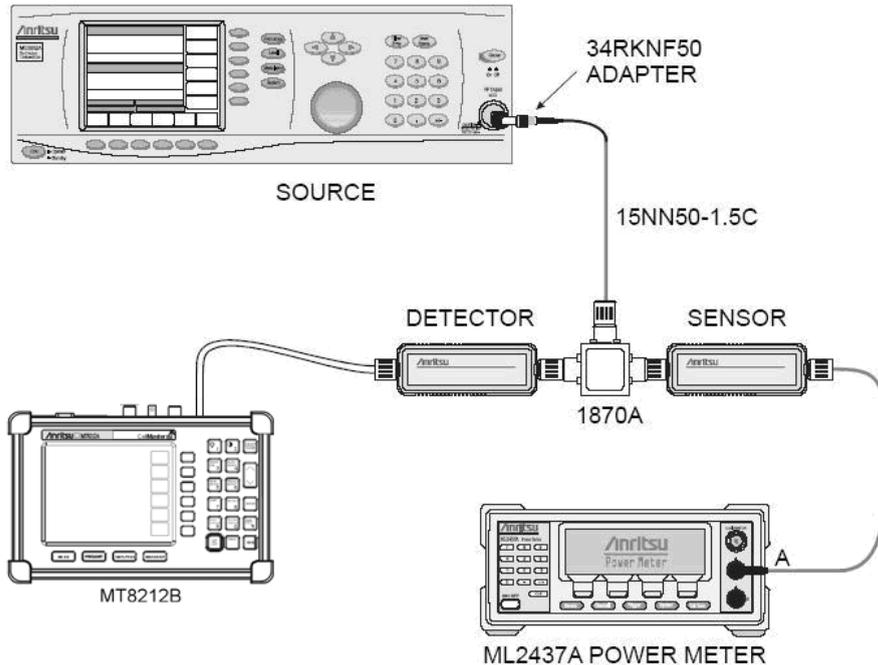

Figure 2-6. Option 5 Test Setup
4. Connect MG3691B, power meter, 560-7N50B detector, power splitter and power sensor as shown in Figure 2-6.